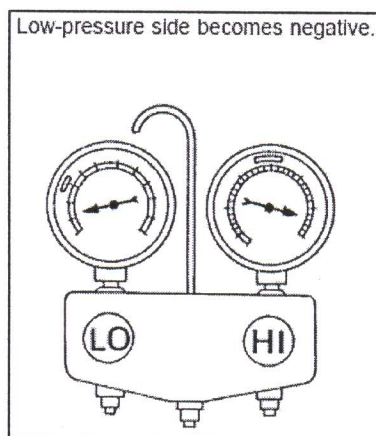

Figure 2
- (b) What will be the assumption that you can make from the reading in figure 2.